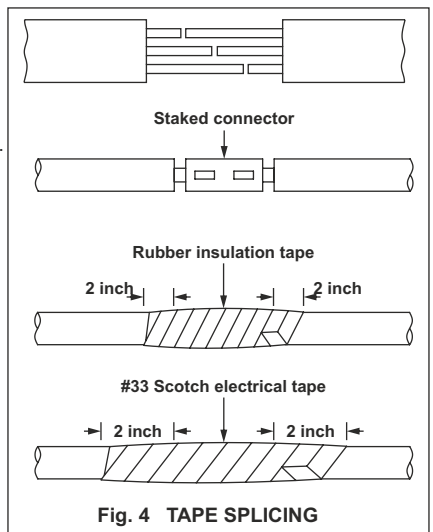

Fig. 4 TAPE SPLICING
1. As shown in fig. 4 cut the cable in a staggered manner for cable joining.